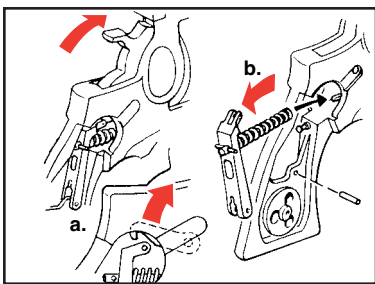

Figure 13
1. Unlatch the hook of the hammer link from the top end of the mainspring lever (See Figure 13 a., below).